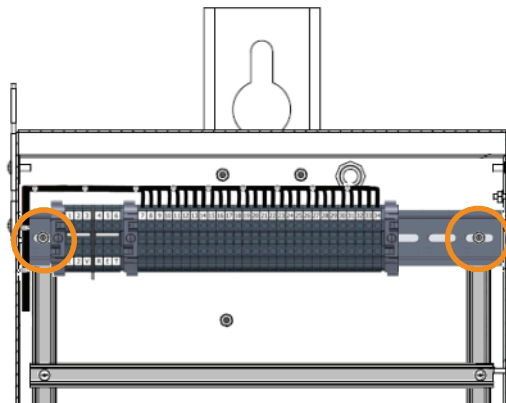

Figure 2 Install Terminal Block Assembly
- Step 2. Install the terminal block wired to I/O and EIA-485 subassembly to the top of the accessory mounting kit with two nuts. See *Figure 2*.